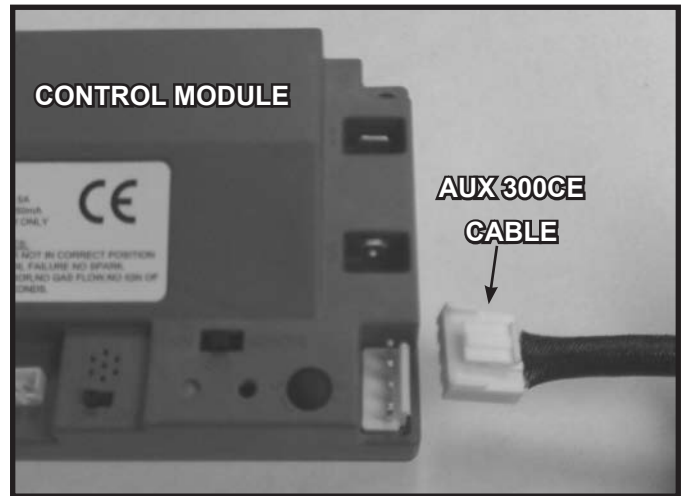

Figure 3.12 AUX 300 Module Installation
- Insert the 4 hole harness from the AUX300CE module into the 4 pin plug on the control module. See Figure 3.12.